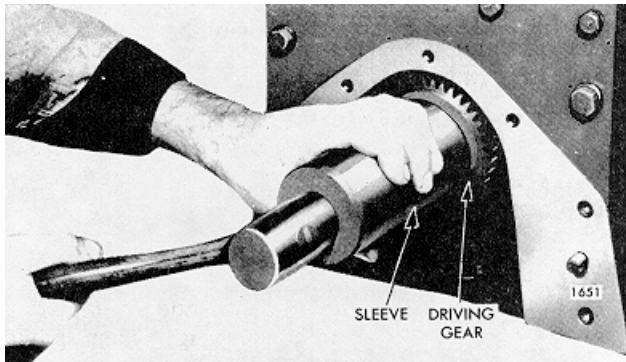

Fig. 9. Installing Oil Pump Driving Gear on Crankshaft
2. Position the gear (80) so the chamfer on the gear hub is toward the main bearing cap and start the gear on the shaft and over the key.
3. Slide the gear on the crankshaft or use a sleeve if required, as illustrated in Fig. 9, and drive the gear tight against the shoulder on the crankshaft.